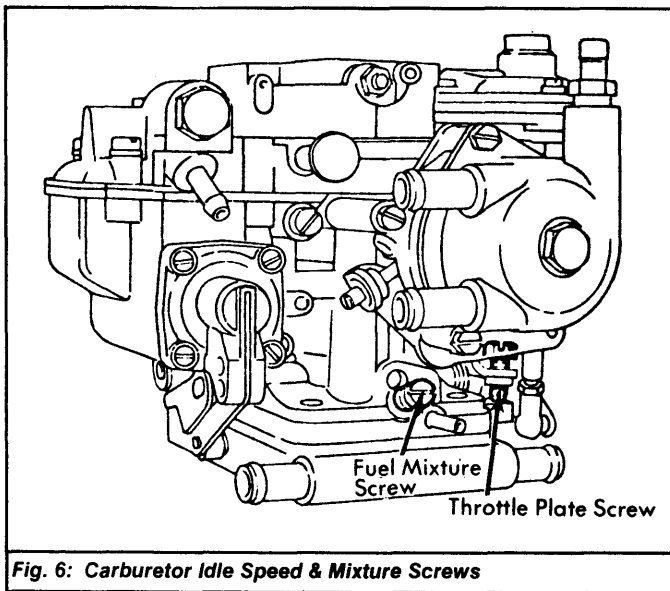

Fig. 6: Carburetor Idle Speed & Mixture Screws
- 3) Disconnect air pump and adjust mixture screw and throttle screw to obtain specified idle RPM and CO% level. See Fig. 6. Reconnect air pump and check that idle speed is still within specifications.